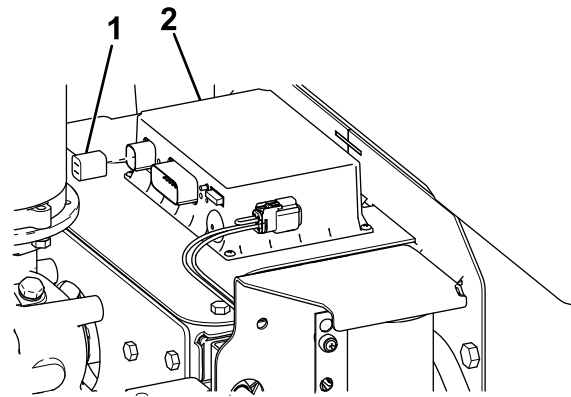

Figure 21
- 12. Locate and remove the plug on the control module (Figure 21).
14. Connect the pump connector and cover harness to the control module (Figure 21).